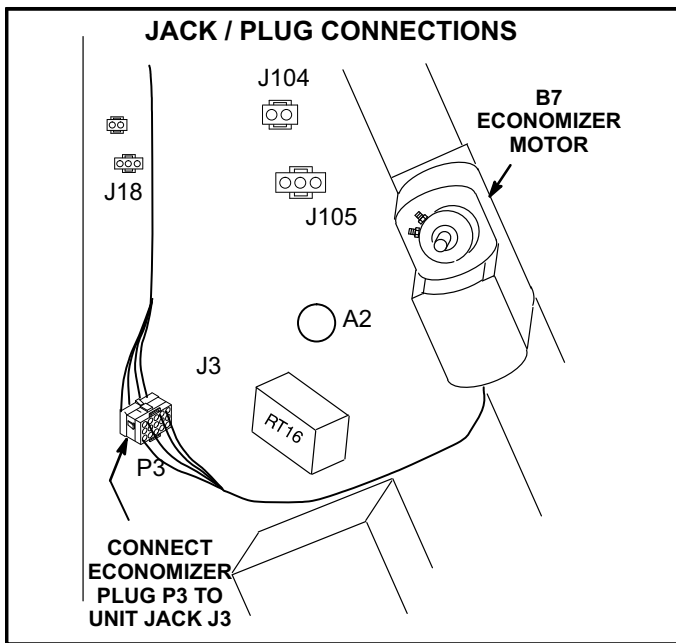

FIGURE 2
- 6- Connect economizer plug P3 to unit jack J3 as shown in figure 2.